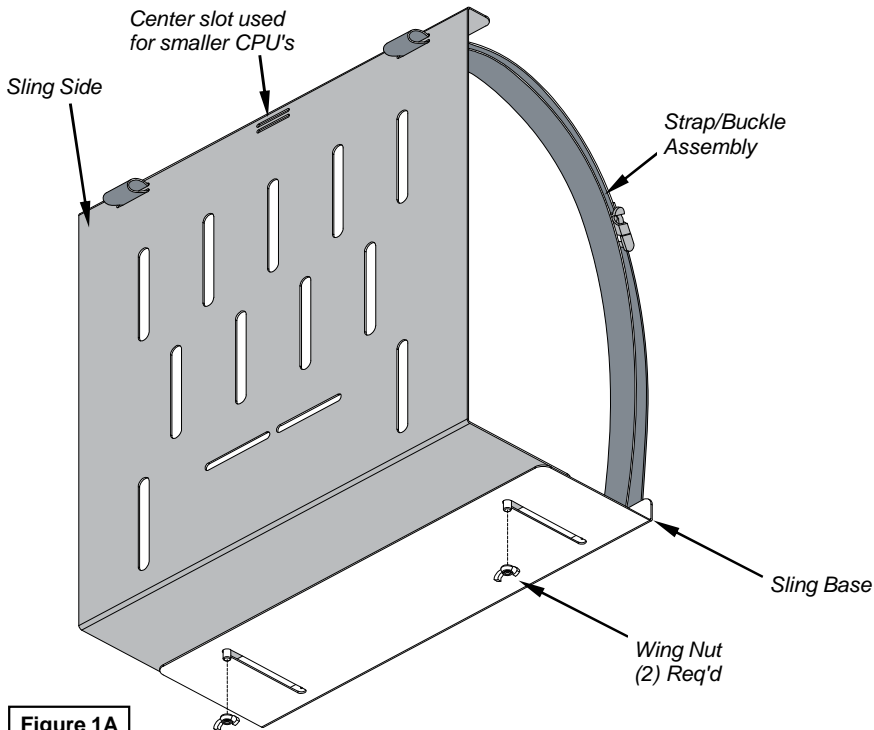

Figure 1A
- Assemble the sling side and base using (2) 1/4-20 wing nuts as shown in **Figure 1A**.